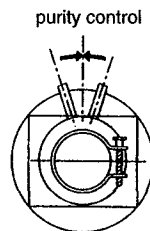

Fig. 2
- 2) Loosen the deflection yoke mounting screw, and set the purity control to the center as shown in Fig.2